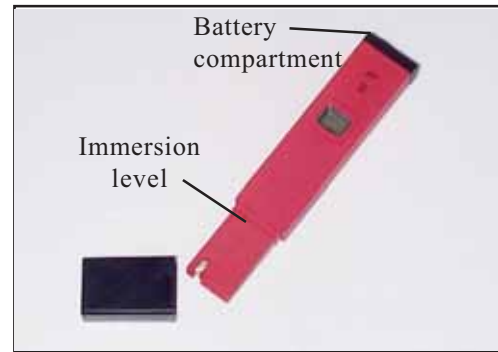

Figure 4c.
- If the pH meter cannot be switched on or if the display fades, unscrew the battery compartment and replace all four batteries, paying attention to their polarity (**Figure 4c**).